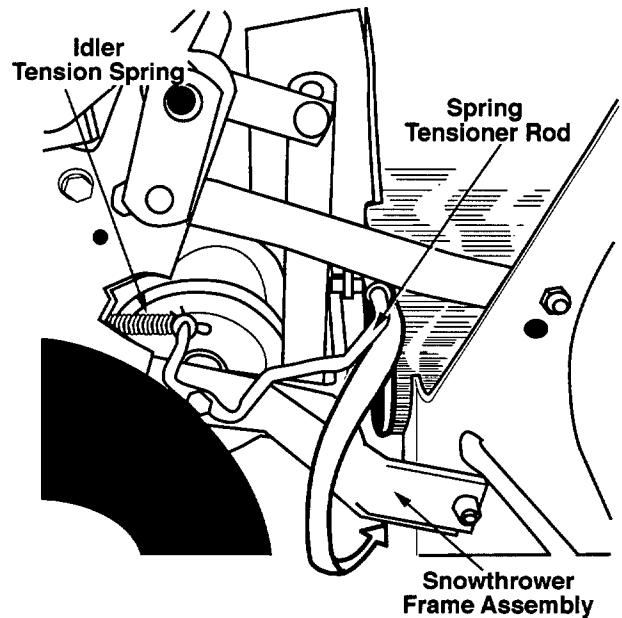

Figure 18
8. To tension the drive belt, extend the idler tension spring by pulling the long end of the spring tensioner rod outward, then rotating the rod downward and underneath the snow thrower frame assembly as shown in Figure 18. Lock the flange on the end of the tensioner rod behind the frame assembly.